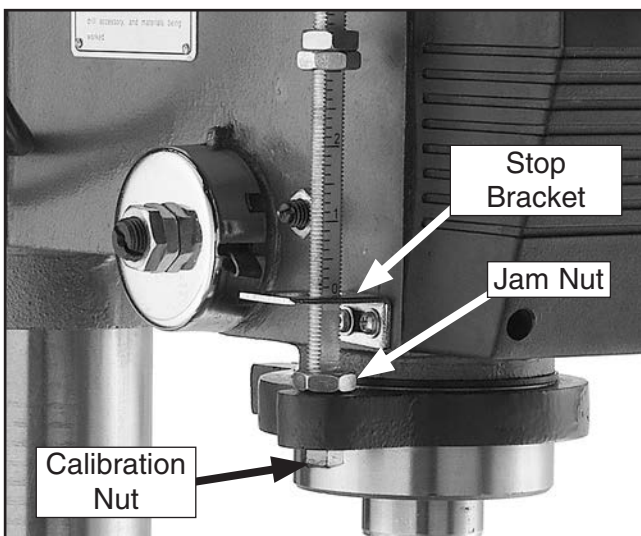

Figure 46. Depth stop assembly.
1. Loosen the jam nut and calibration nut shown in **Figure 46**.